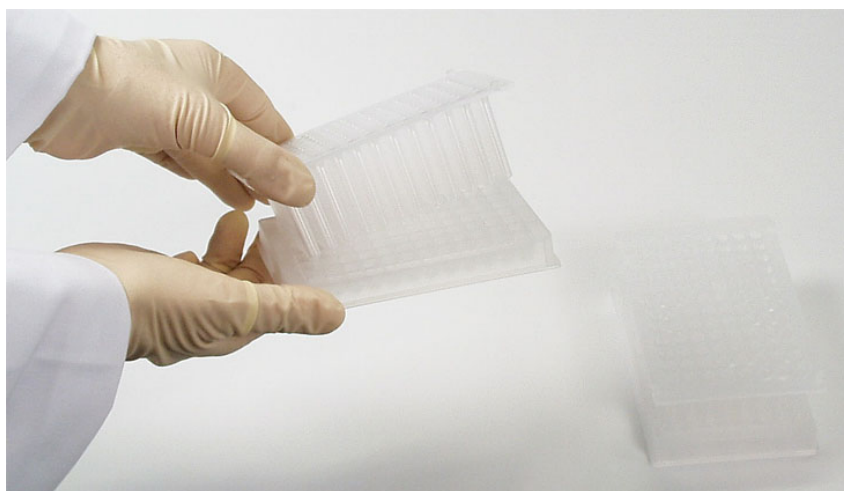

Figure 4-35. Storing the other tip comb on a KingFisher 96 plate for further use
3. Place the other unused tip comb onto another plate for storage to avoid bending of the tip combs (Figure 4-35) to ensure proper instrument operation.